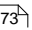

Figure 6
- 9 Screw the "Light Touch" without the Diamond Cutter fitted, anti-clockwise into the top of the spindle shaft. DO NOT OVER-TIGHTEN - hand tight only, see Figure 6.